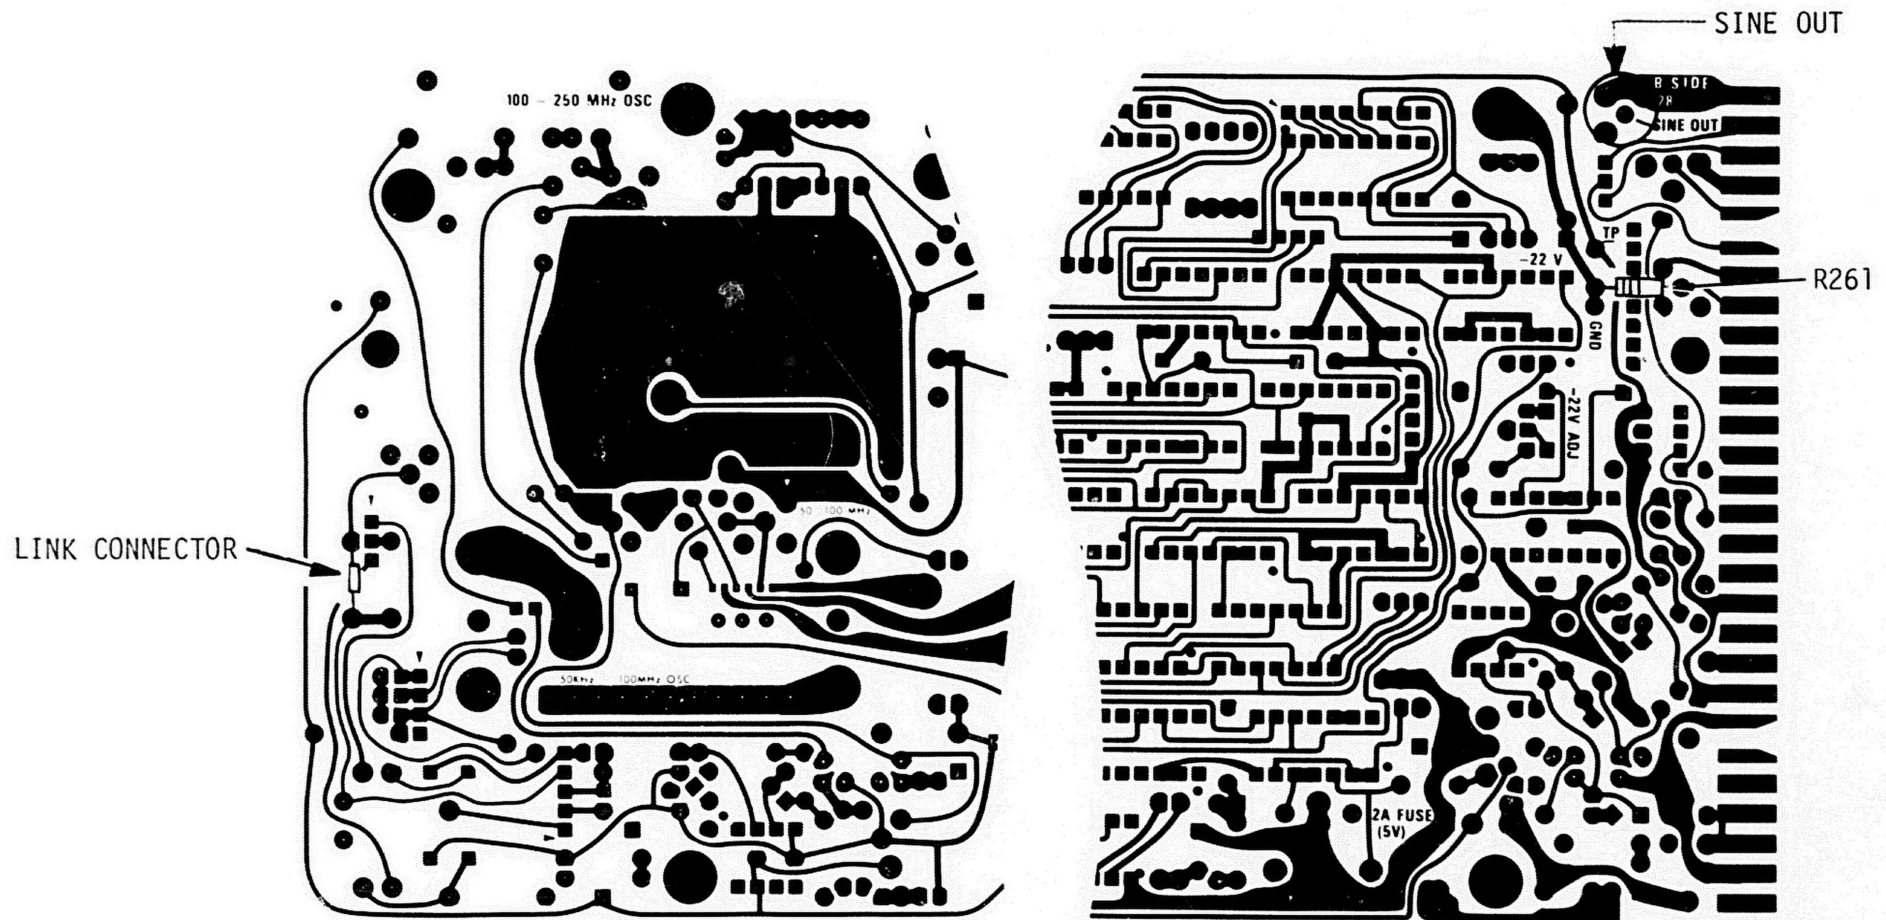

FIG. 2 - PARTIAL MAIN CIRCUIT BOARD (BACK)
See Fig. 2.
- ( ) 3. Relocate the link connector at the front of the Main circuit board. from its present location between the circuit board pad connected to the center terminal of R260 (OUTPUT AMPLITUDE VOLTS P-P control) and pin 4 of P265 to connect between the circuit board pad that connects to the center conductor of the coax installed in step 2 and pin 4 of P265. See Fig. 2.
- ( ) 4. Install R261, a 51k 1/4W composition resistor, between the circuit board pad connected to pin 21B of the interconnect connector and ground. See Fig. 2.